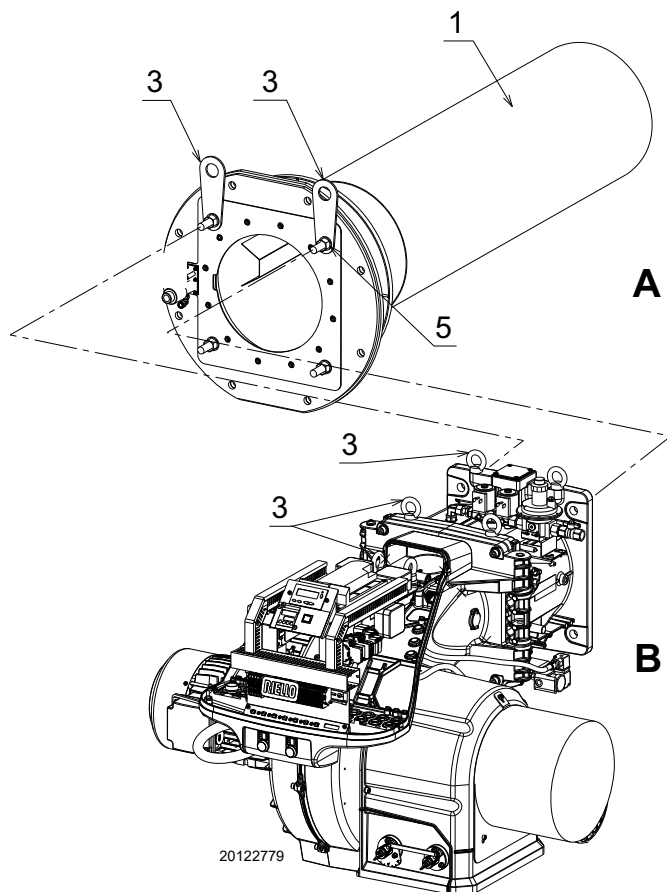
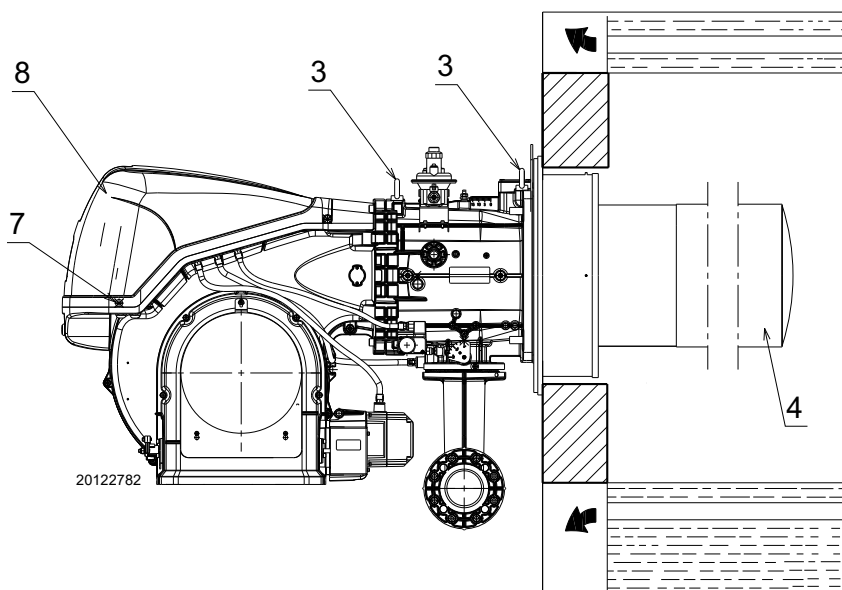

Fig. 19
Fig. 20
Prepare a suitable lifting system using the rings 3)(Fig. 19), after removing the fixing screws 7) of the casing 8).
- Prepare a suitable lifting system using the rings 3)(Fig. 19) of the head assembly.
- Insert the head assembly on the previously prepared boiler hole (Fig. 19) and fix with the M18 screws.
- Lift the burner by means of the rings 3)(Fig. 19) after having removed the cover 8) fixing screws 7)(Fig. 20).
- Fix the burner onto the head assembly with the supplied screws 5)(Fig. 19).